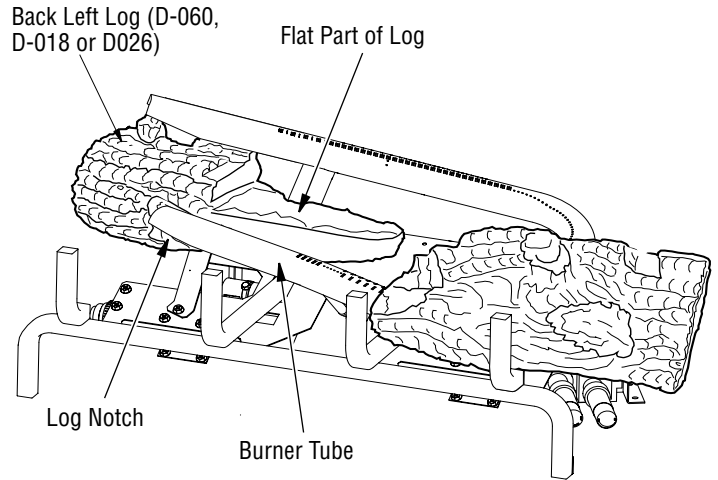

Figure 17 - Installing Back Left Log
- Find the back left log (SouthernComfort24 and ShadyHollow24 models: D-060, SouthernComfort30 and ShadyHollow30 models: D-018, SouthernComfort36 and ShadyHollow36 models: D-026). See **Figures 17, 17A, and 17B**. **Figure 17A** shows how the log must fit against the end of the burner. **Figure 17B** shows how the notch in log fits against the vertical portion of the burner tube. Place this log on the base assembly by inserting it from the left side as shown in **Figure 17**. You will need to twist the log slightly to get it to fit against the burners properly. It will rest even with the back edge of the pan.